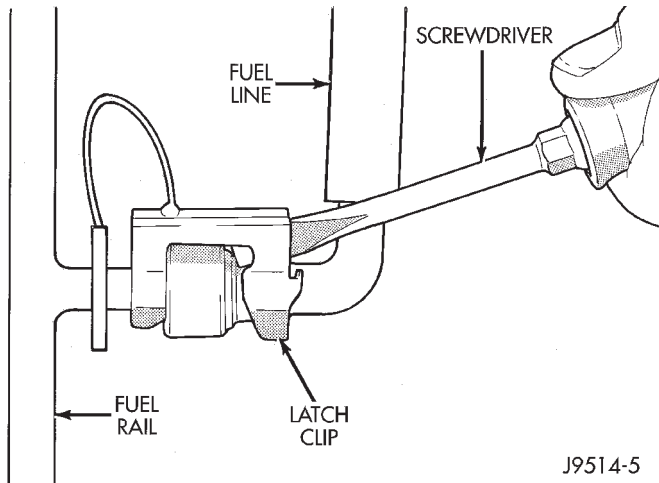

Fig. 19 Latch Clip Removal—Typical
- (4) Pry up on the latch clip with a screwdriver (Fig. 19).